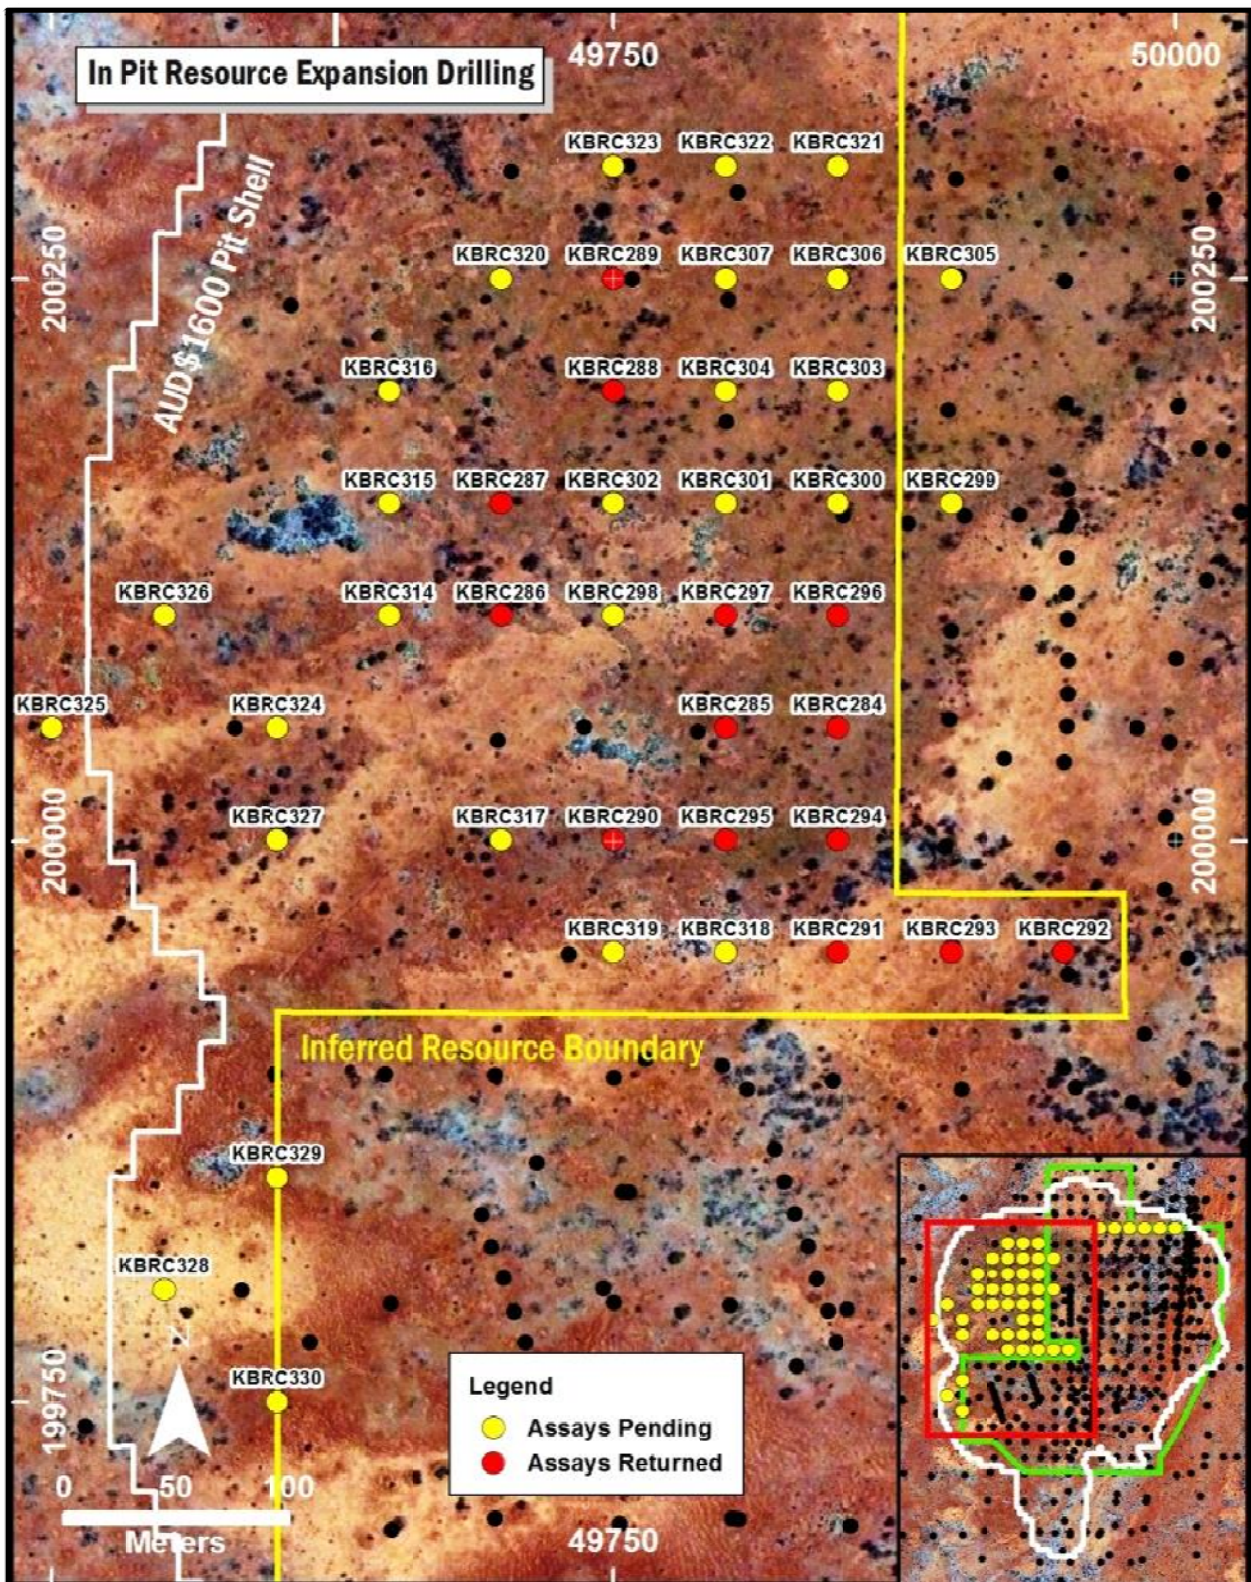
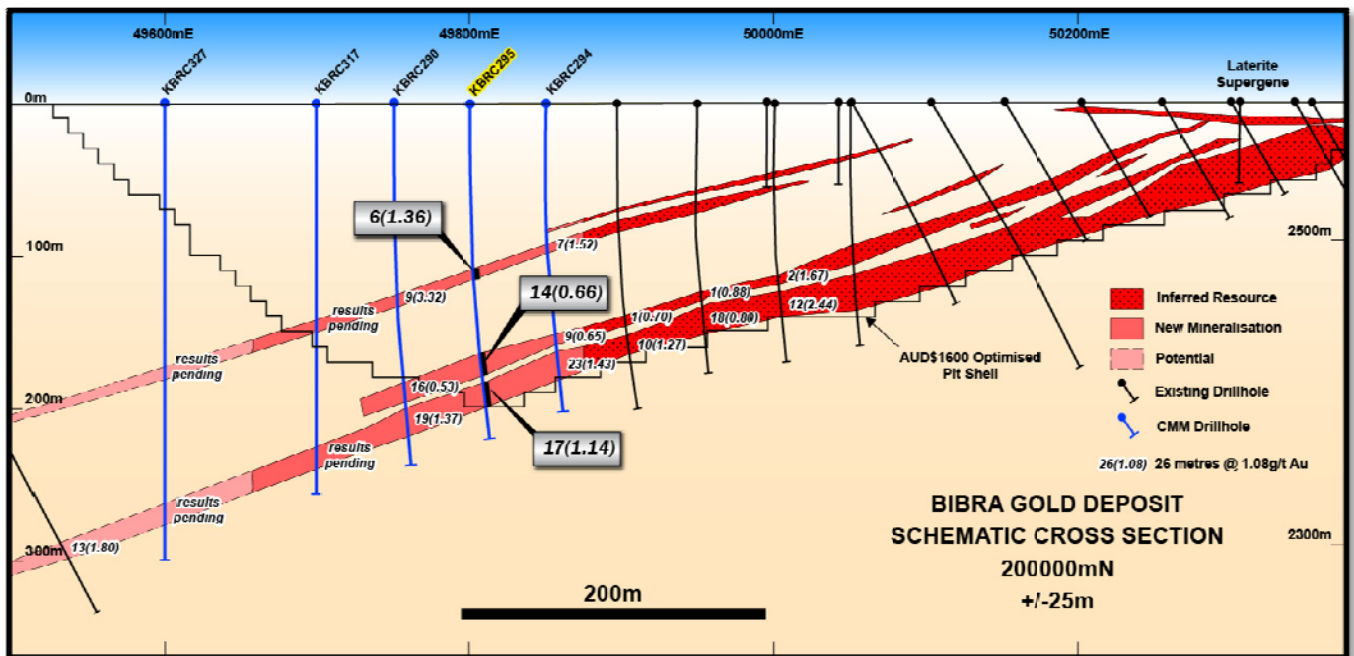

Figure 2: Plan Showing Current Drilling Status
Figure 3a: BIBRA GOLD DEPOSIT SCHEMATIC CROSS SECTION (200000N)
- A Reverse Circulation (RC) drill rig has now completed the expanded 47-hole drilling program (9,642 metres) at the Bibra Gold Deposit;
- This drilling has been focused on the “Main Lode” in the northern area of the optimised open pit (Figure 2). These initial results indicate that there is strong continuity of mineralisation outside of the currently reported Inferred Resource and that the mineralised shear zone remains consistent at depth (Figures 3a-b). The drilling remains wide spaced on a 50 metre by 50 metre grid;